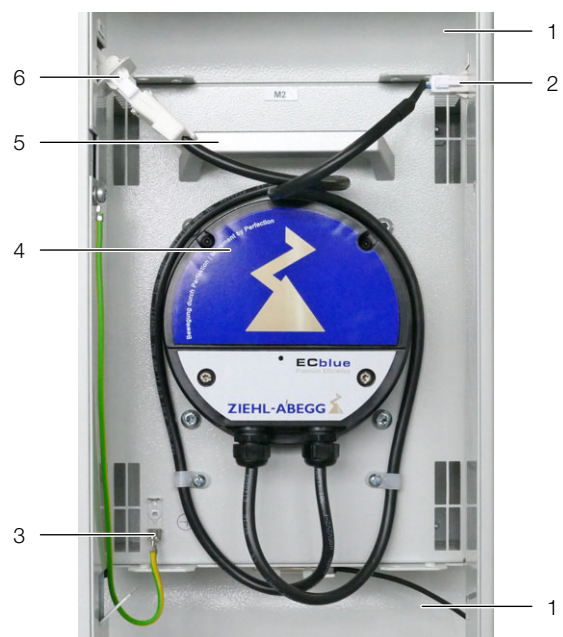

Fig. 41: Fan module in fan tray
- Release the two DC and AC fan connectors on the left and right (fig. 41, items 2 and 6).
- Disconnect the PE conductor connection on the fan (fig. 41, item 3).
- Loosen the two knurled screws, right and left (fig. 41, item 7), at the top and bottom of the fan air baffle plates.